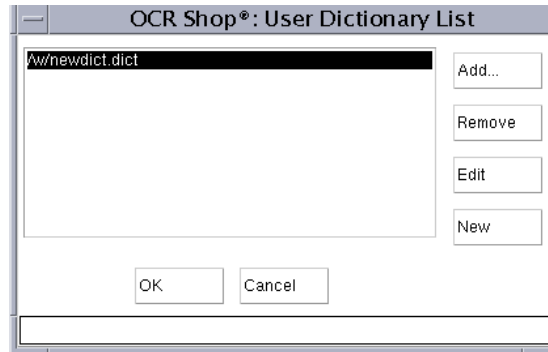

Figure 4-4 User Dictionary List
1. Choose User Dictionary... from the Options Menu. The User Dictionary List window will appear, see Figure 4-4.